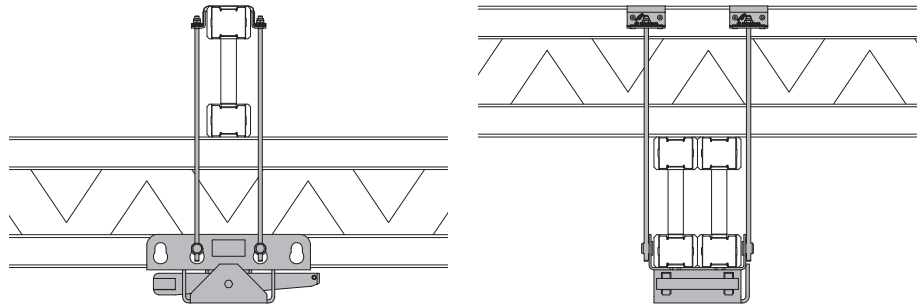

Fig. B2.02
(Fig. B2.02)
2. Position 4x Table Heads TK (26) and align exactly with the stopping boards. (Fig. B2.02)